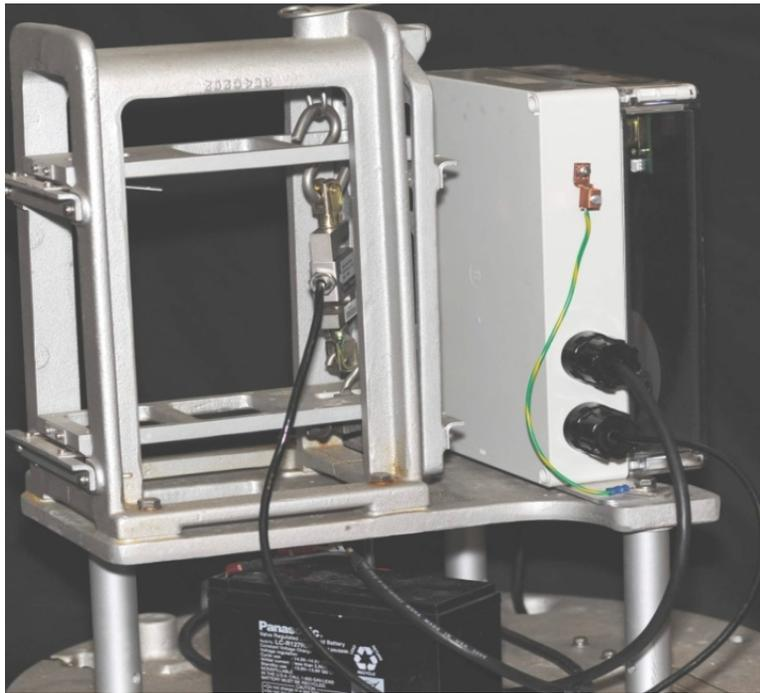

Figure A-5: Left-Side of F&P Weighing Assembly
6. Hook the load cell to the bottom of the S-hook with the writing on the load cell upright. The load cell cable is passed through the left side or back of the F&P weighing assembly and aligned away from the flexures in the front. Rotate the load cell mounting hardware (rod ends) to route the cable out the left side (as shown in Figure A-5) or back. Finger tighten the rod ends into the screw holes and then back off by a quarter turn.